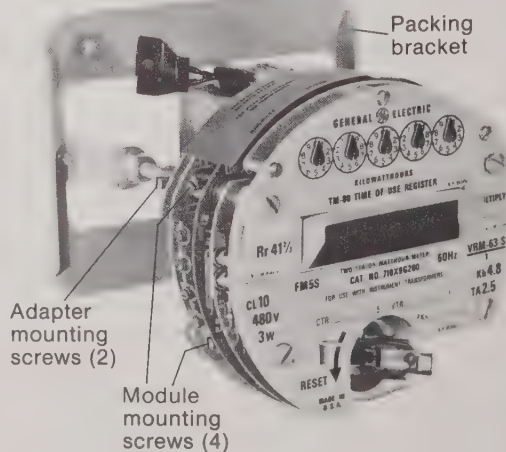

Fig. 10. Type TM-80 TOU register.
- a. Loosen the four module mounting screws (two on each side) shown in Fig. 10. Do not loosen the two screws that are behind the adapter plate; these hold the adapter assembly to the meter.
1. Remove the Type TM-80 register from its packing bracket (Fig. 10).
- a. First loosen the four electronic module mounting screws (two on each side) shown in Fig. 10. Grip the module evenly on each side, then pull it away from the adapter assembly and packing bracket. Place the module faceup on a clean, flat surface.
- c. Press down over each of the four mounting posts and tighten the mounting screws firmly. (See Fig. 10).